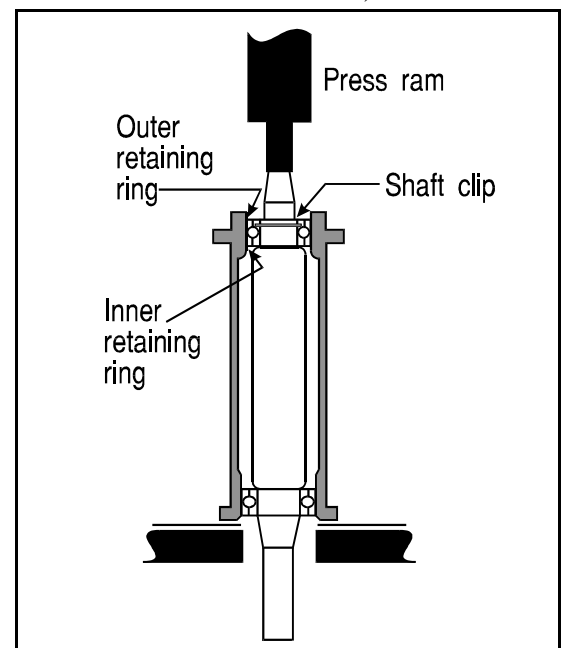

FIGURE 1 (MSSM0709BE)
NOTE: Provide enough clearance around the bottom of the housing (FIGURE 1) as the bearing will come out with the shaft.
1. Remove and discard the shaft clip and place the assembly in a press with the tapered shaft end pointing up as shown in FIGURE 1. Press the shaft down. When the lower bearing clears the housing, the shaft will drop out with the lower bearing remaining on the shaft.